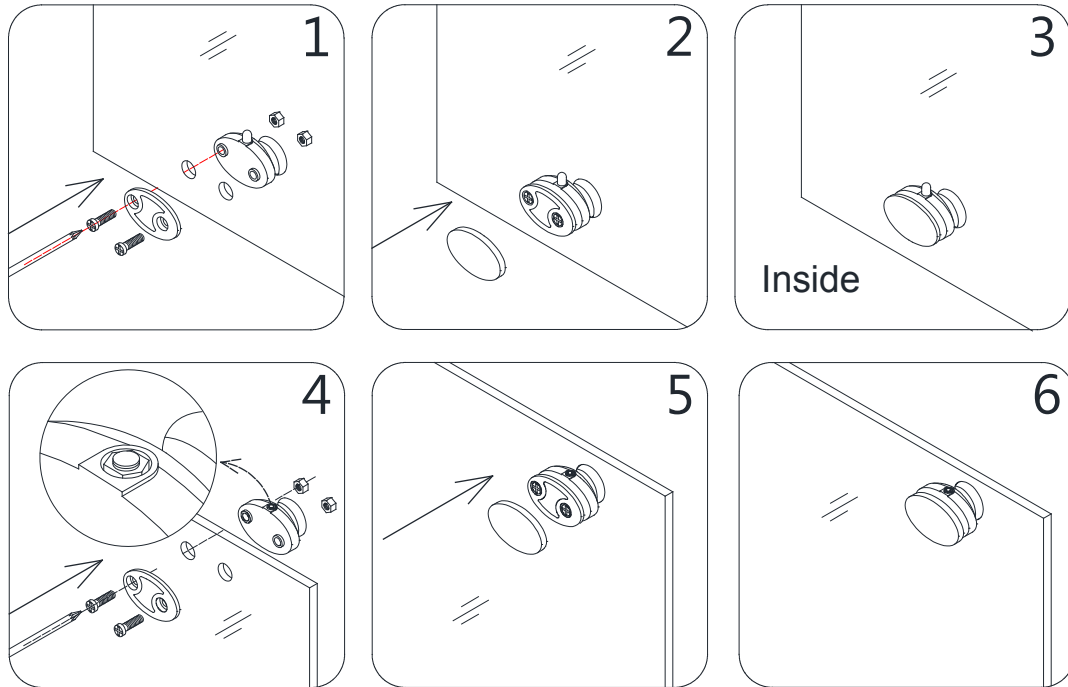

Fig 12
12. Fasten the top and the bottom **Wheel Assemblies (#17)** to the **Door Glass (#04)**. The top wheels can adjust the door level using the adjustable bolt and lock nut. The bottom wheel has a press button to fix the wheel onto the **Bottom Guide Rail (#03)**. **The wheels must face towards the outside of the shower.** Be sure that the handle holes are on the correct side for the installation. (**Fig 12**)